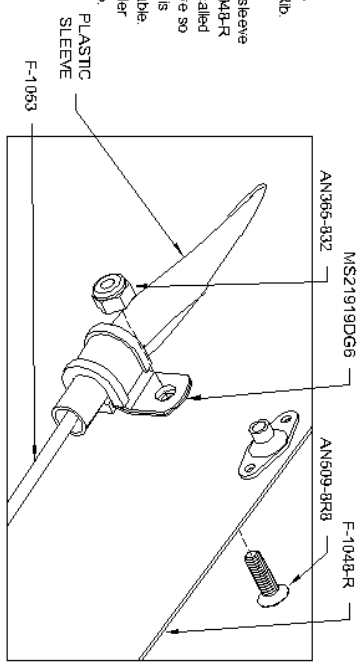

FIGURE 6: RETAINING THE PLASTIC SLEEVE
Step 8: Clamp the forward most plastic sleeve on the F-1053 Rudder Cable to the F-1049-R Fwd Fuselage Rib using the hardware called out in Figure 6. Position the plastic sleeve so that the oval slot in the fwd fuselage rib is completely protected from the rudder cable. Repeat this step to clamp the other rudder cable to the F-1049-L Fwd Fuselage Rib.